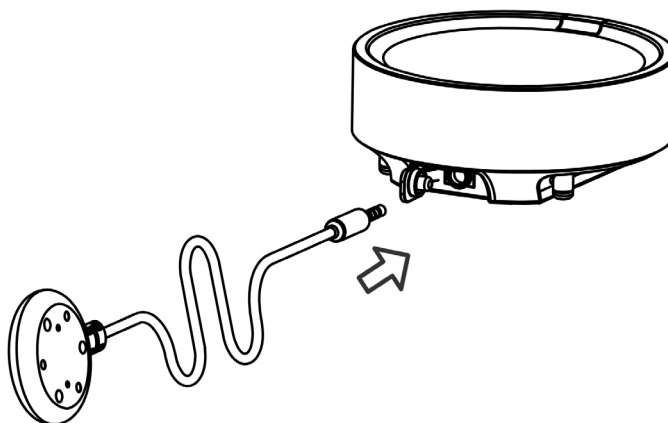

Figure 14
- 1) Connect the wired sensor to the wireless sensor (refer to Figure 14).